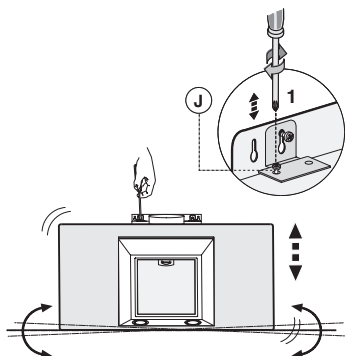

Fig. 8
2. Hang the hood on to the screws and adjust the levelling screws to ensure the hood is square against the wall (fig 8).